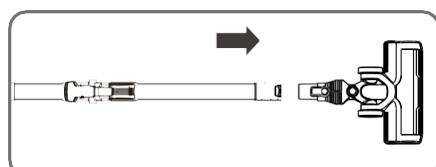

Figure 3
- Connect the floor brush into the end of the tube. The installation is successfully completed once a "click" is emitted. (figure 3).